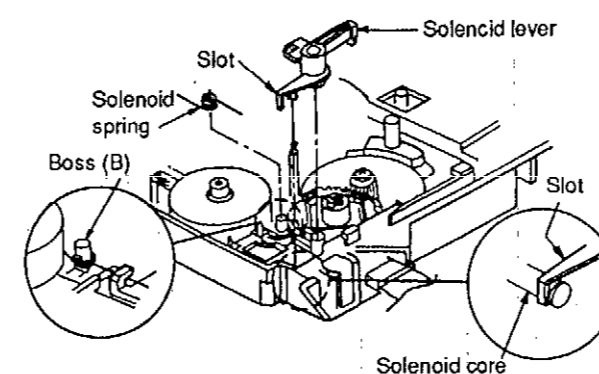

Fig. 3
5. Install the solenoid lever. (See Fig. 3)
6. Install the solenoid spring to the boss (B). (See Fig. 3.)